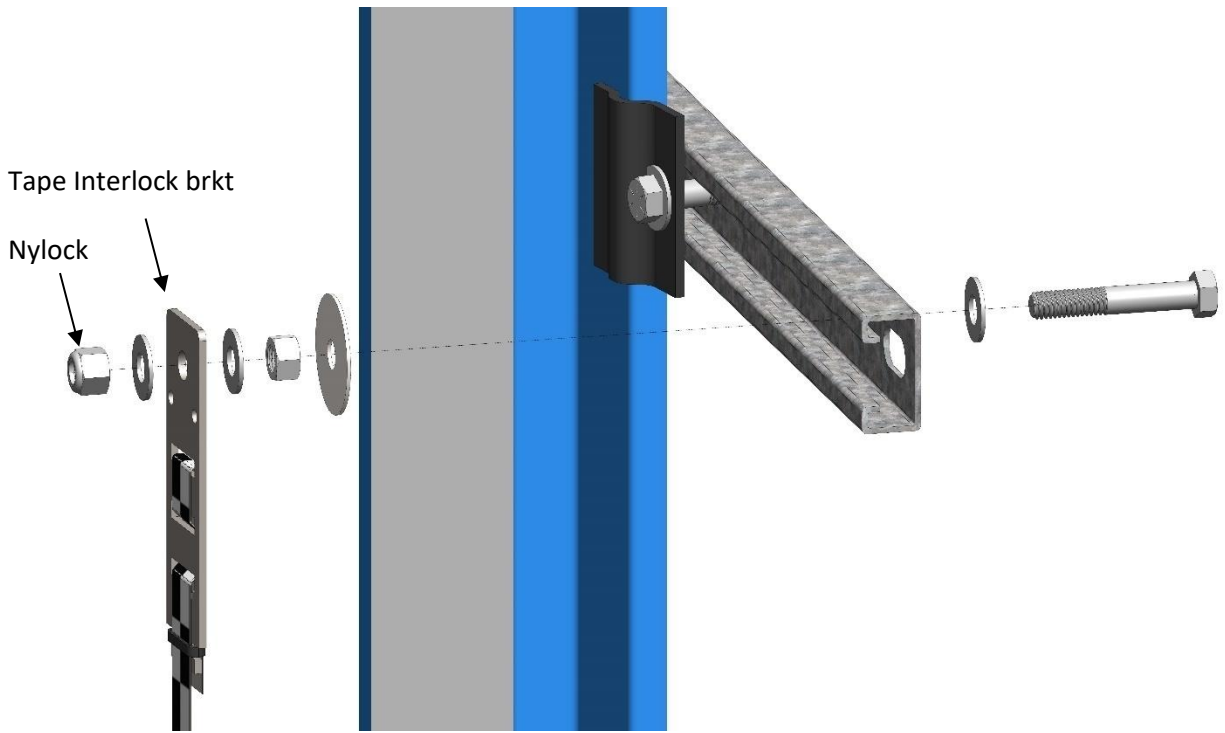

Figure 6: Upper tape mounting assembly
- Bolt the two, 18" lengths of Unistrut to the C-channels as shown in figure 6.
- Bolt the 24" length of Unistrut to the two 18" lengths as shown in figure 6. Note: the 24" length may be bolted to the top of the two 18" lengths if desired.